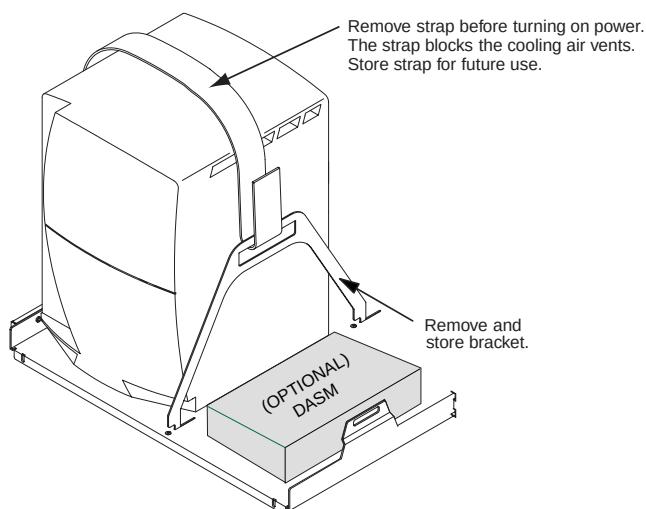

Figure 2-5 DASM Location
- 10.) Re-attach remaining cable(s) from camera to DASM, and install the DASM next to the computer, as shown in Figure 2-5.
- 8.) Attach remaining cable(s) from camera to DASM (refer to Figure 2-5, on page 17).